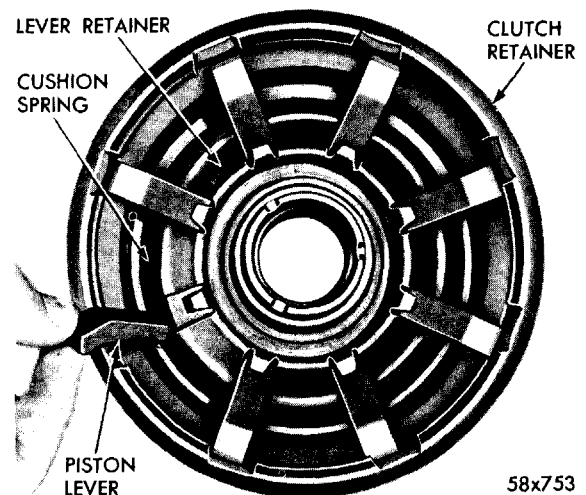

Fig. 75—Installing Piston Levers
(6) Place lever retainer (K) on piston hub and install levers (Fig. 75).
(7) Position return spring (J), retainer (I) and snap ring (H) on retainer hub. Use Tool C-3575 to compress spring sufficiently to seat snap ring in groove with pliers C-3301 and then remove compressor. **Be very sure snap ring is properly seated.**
(8) Install plate (F) (smooth side up) in retainer and then install discs (D) and plates (E) alternately.
(9) Check clutch travel (free play for complete disengagement). Using the truck transmission front clutch spacer plate, Part Number 1824319, as a special tool, place the spacer against shoulder in retainer above the top clutch disc. Clearance between tool and top disc should be .020" to .040".